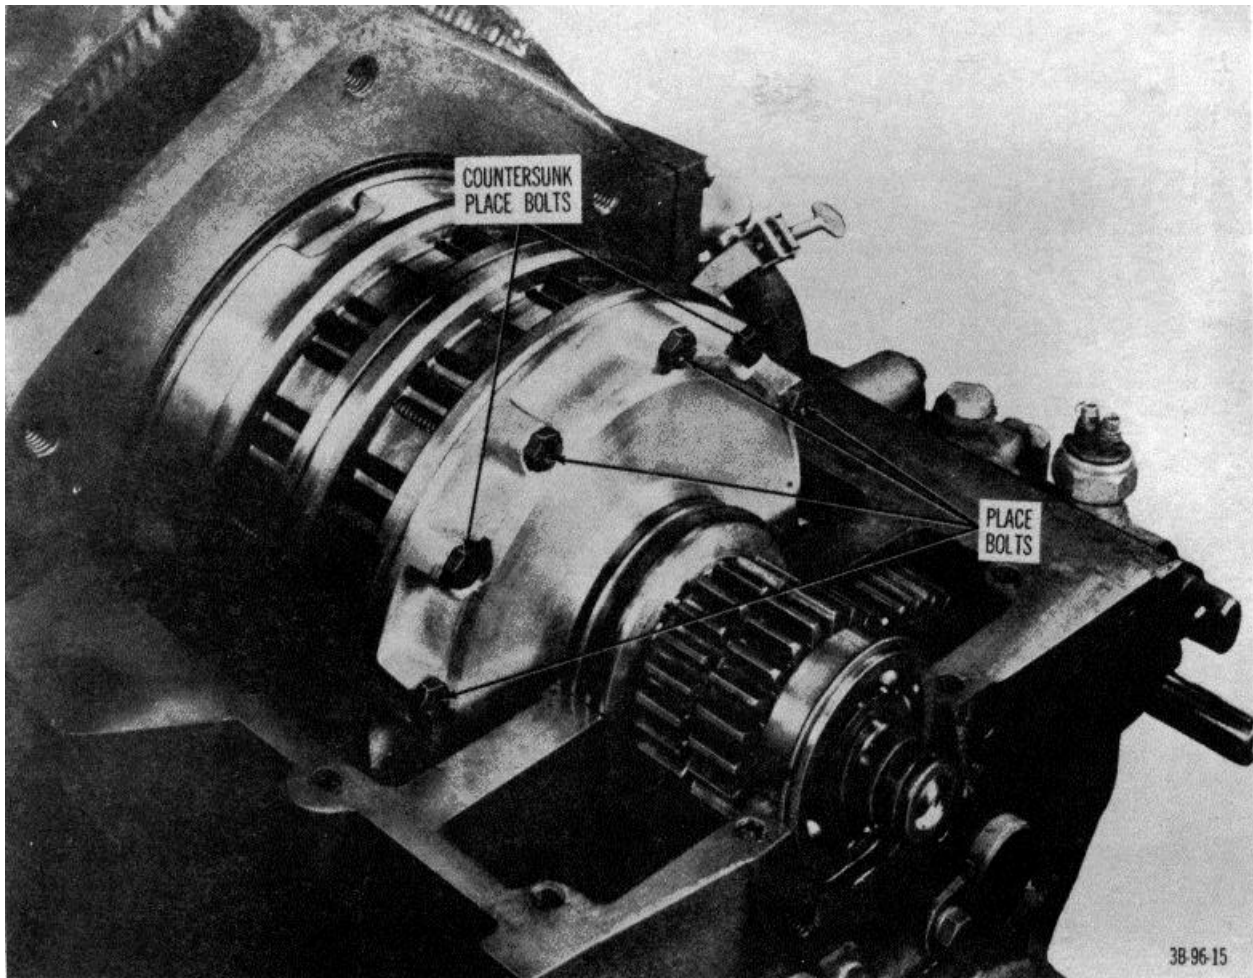

Figure 27. Forward-and-reverse clutch pack, mounted to drive plate.
- (13) Remove the clutch pack-to-drive plate attaching bolts (fig. 27).